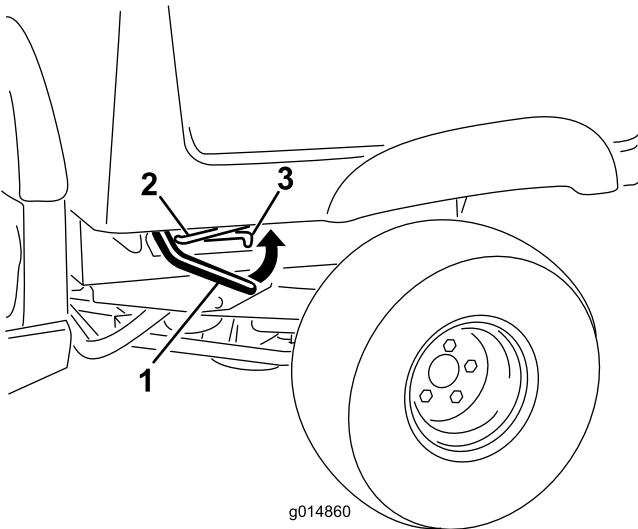

Figure 1
2. Lift the lever on either side of the box and lift the box up (Figure 1).
3. Pull the prop rod into the detent slot, securing the box (Figure 1).